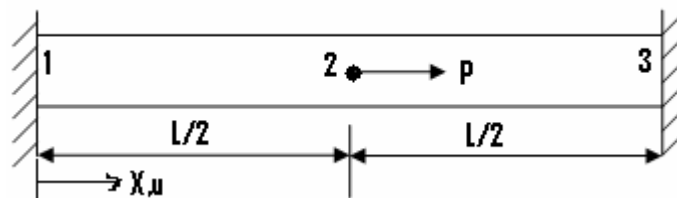

Figure.1
7. Find the Stress by Rayleigh-Ritz Method at node 2 of a fixed beam shown in Figure.1 subjected to an axial load 'P' at node 2. Consider $L/2 = E = A = 1$ (one unit). [15]